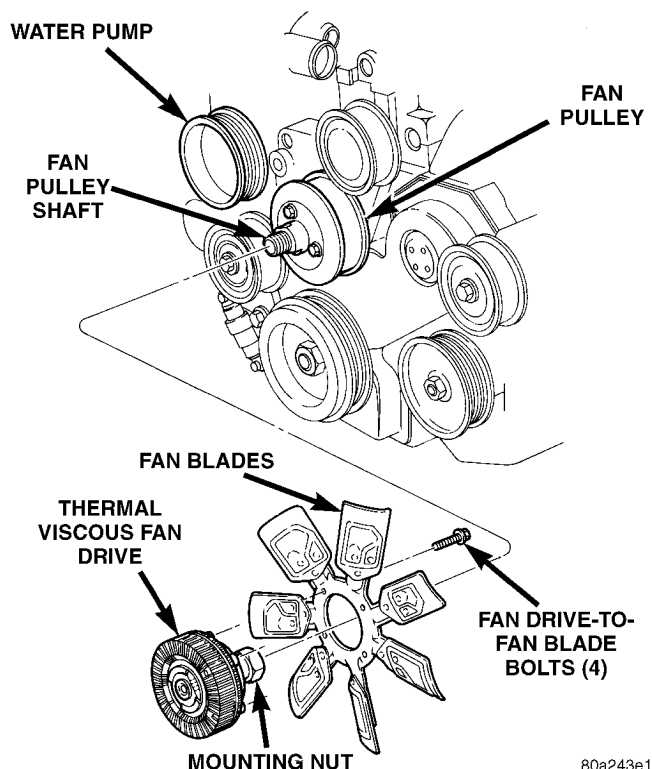

Fig. 25 Thermal Viscous Fan Drive and Blade Assembly
- (1) Remove fan blade and viscous fan drive as an assembly from the engine.
- (2) Remove fan blade assembly from viscous fan drive unit (four bolts) (Fig. 25).
- (3) Lay fan on a flat surface with leading edge facing down. With tip of blade touching flat surface, replace fan if clearance between opposite blade and surface is greater than 2.0 mm (.090 inch). Rocking motion of opposite blades should not exceed 2.0 mm (.090 inch). Test all blades in this manner.